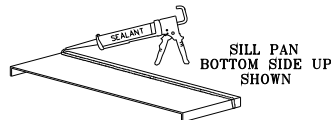
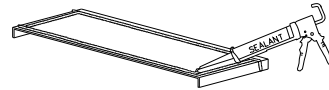

Figure 2
Figure 3
- b. With bottom side of sillpan up, apply a 3/8" bead of compatible sealant 1/2" in from interior leg (see figure 2). Also apply sealant beads near the sides and across the front as shown in figure 3.